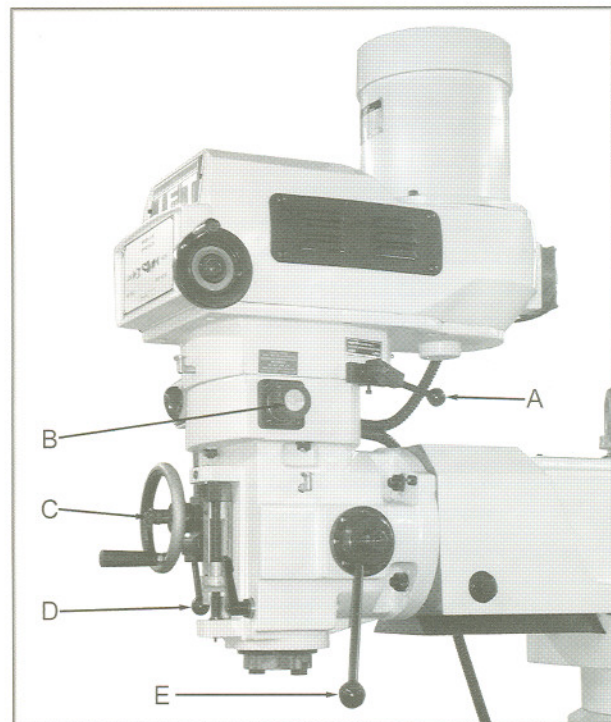

Fig. 7
To change from high to low speed range, move lever (A, Fig. 7) by pressing in and rotating almost 180°. Do not change gears while the spindle is running.
1. Disengage automatic feed by turning knob (B, Fig. 7) so that the pointer indicates towards the front of the machine.
2. Locate the feed reversing knob (C, Fig. 7) in the center or neutral position.
3. Engage feed trip lever (D, Fig. 7) by pulling away from the head assembly.
3. Disengage feed trip lever (D, Fig. 7) by pushing towards head assembly.
4. Engage the manual quill handle (E, Fig. 7) and push, or pull to raise, or lower the quill.